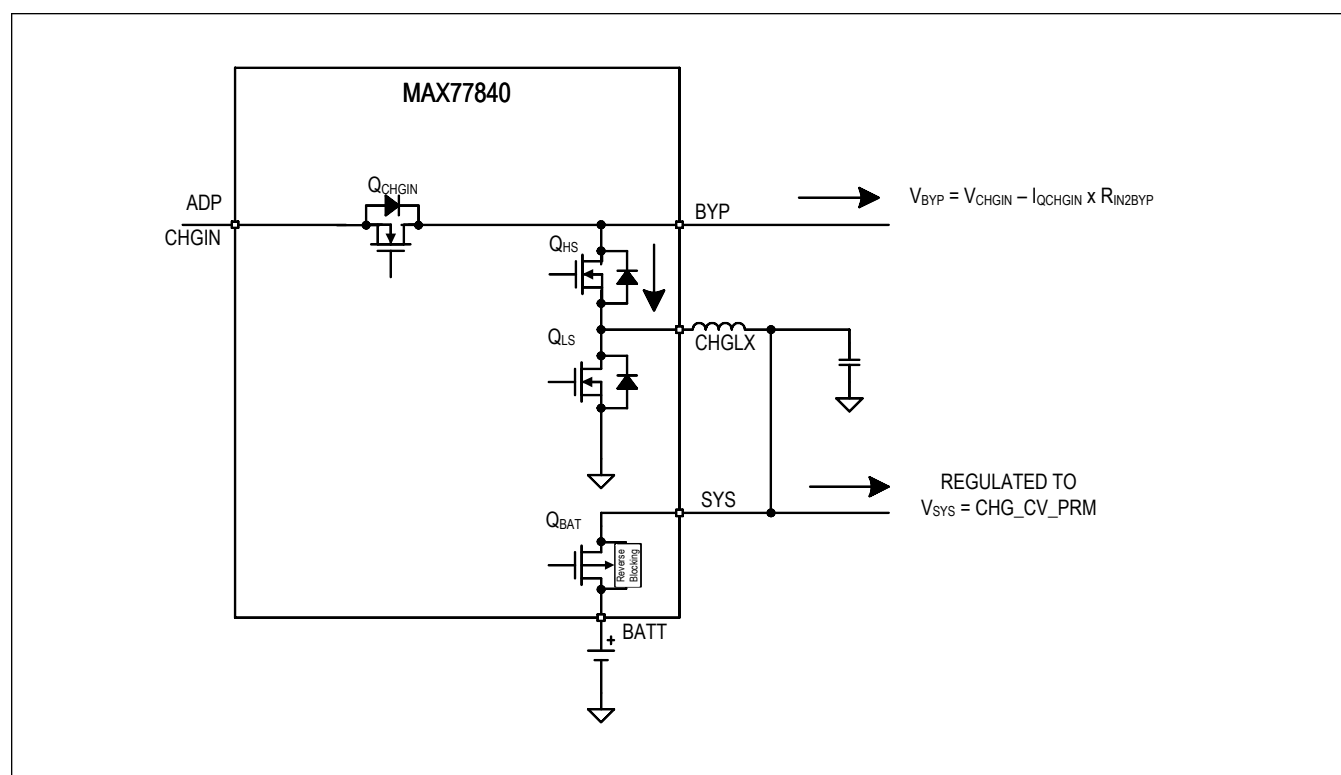

Figure 7. No Charge-Buck
5. NO CHARGE-BUCK, MODE = 0x0C: The adapter is detected within the input voltage operating range (Q_{CHGIN} = on). Battery is disconnected (Q_{BAT} = off) and the charger is operating in buck mode powering SYS node, see Figure 7.